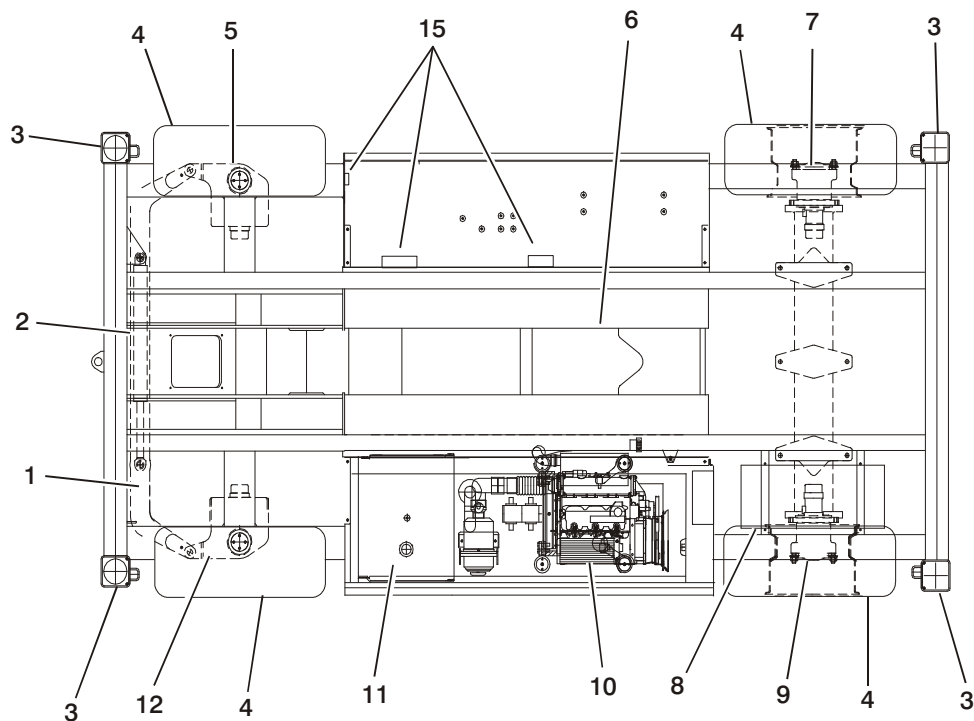

Figure 2-2. Walk - Around Inspection Diagram
5. **“Walk-Around” Inspection** - Refer to Figure 2-2., Walk - Around Inspection Diagram.